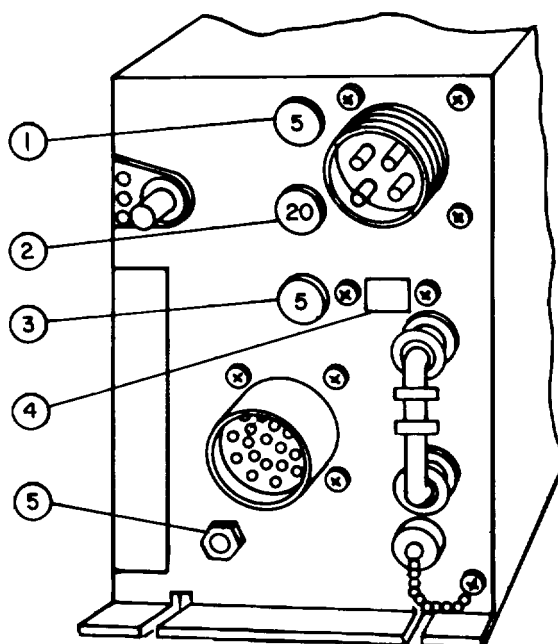

Figure 2-4. AM-7201/U Amplifier-Coupler Controls
Refer to figure 2-4. Located on the front of the amplifier coupler are three circuit breakers. Circuit breaker (1) is a 5 A circuit breaker which controls power to the control-display. Circuit breaker (2) is a 20 A circuit breaker which controls power to the amplifier-coupler. Circuit breaker (3) is a 5 A circuit breaker which controls power to the receiver-transmitter. Circuit breakers should remain in the closed position (pressed in) to function properly.